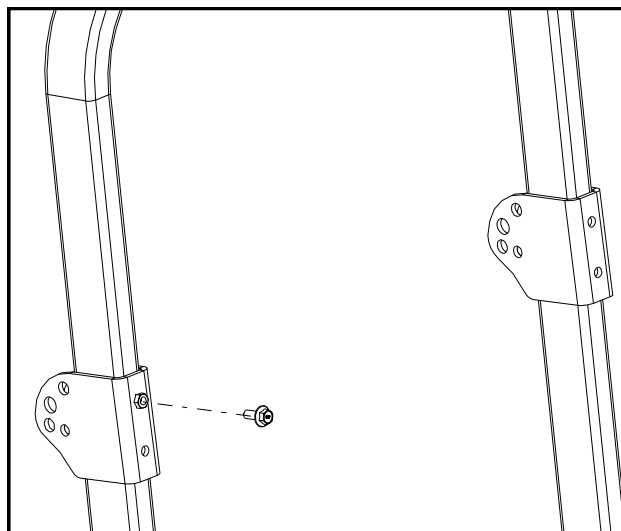

Fig. 1.16 (right side view of ROPS)
**1.16** Remove the ROPS adjustment knob found on the right side of the ROPS. Replace with metric hardware provided. See fig. 1.16.